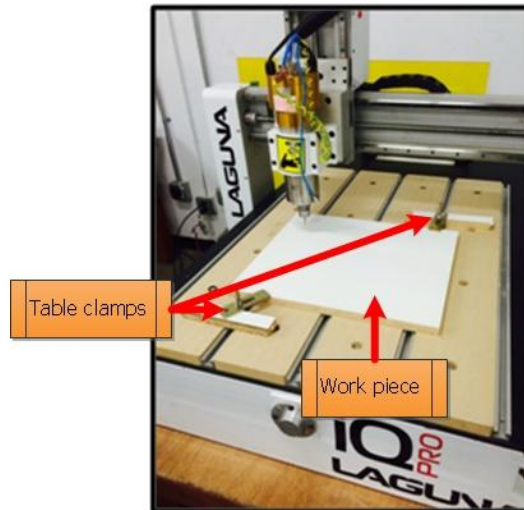

Figure 3. Simple work piece setup
- a. This can be done with the supplied table clamps (Figure 3).